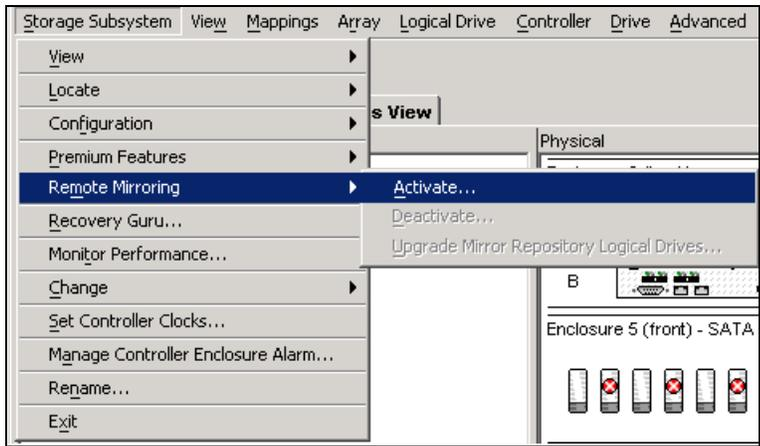

Figure 8-21 Activating Remote Mirroring
1. Select the **Storage Subsystem** → **Remote Mirroring** → **Activate** pull-down menu option, or select **Remote Mirroring** → **Activate** from the right-mouse pop-up menu (Figure 8-21).